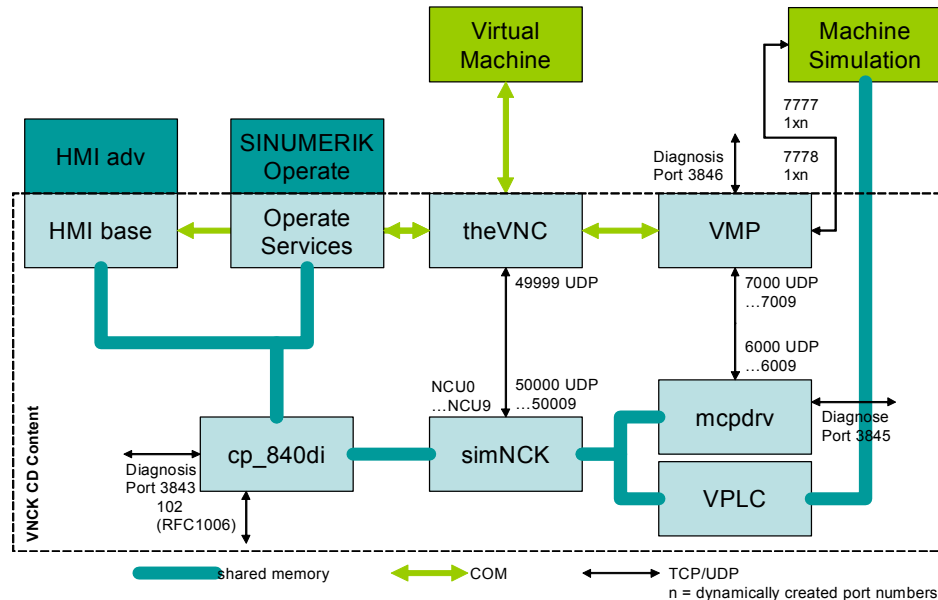

Fig. 1-1:VNCK CD content
- Port 5000 (not shown in Fig. 1-1) is used to register virtual machine control panels via vmcp.dll